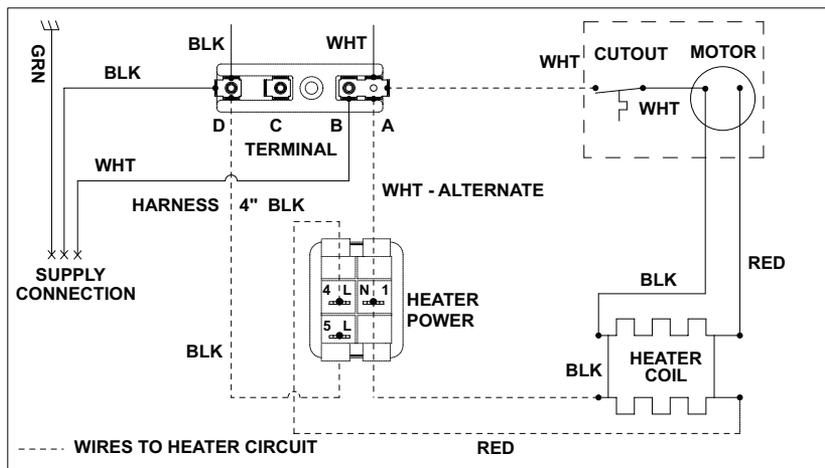

Figure 22 - Heater Circuit Diagrams
13. Connect white heater wire to neutral connection marked 'B' or 'A' on terminal block. See partial wiring diagram, Figure 22.